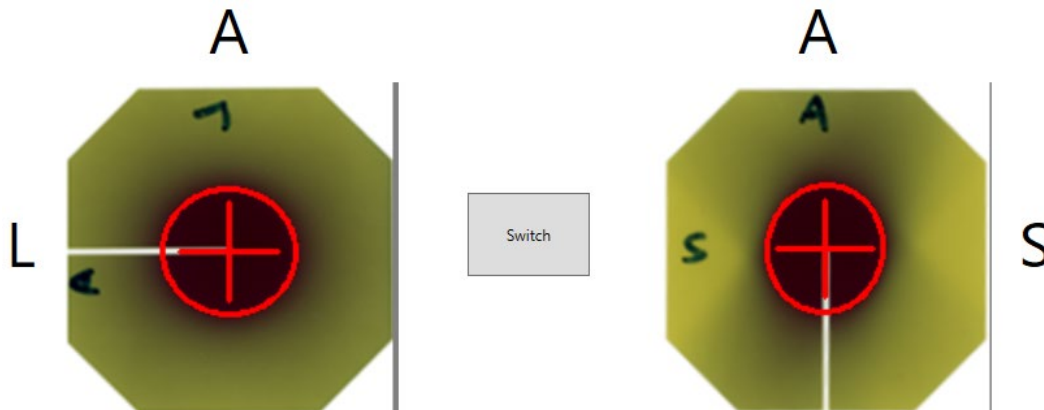

Figure 7-6 Initial orientation of films after image loading.
- Select the desired image by clicking on it and clicking **Open** (see Figure 7-6).